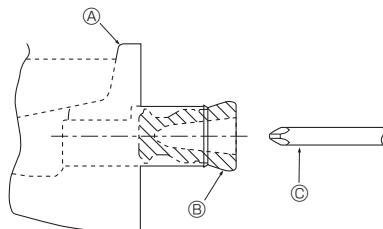

Fig. 5-1
- For left side tubing, be sure to insert the rubber plug into the right drain port. (Fig. 5-1)
- (A) Drain pan